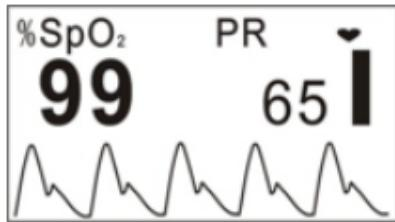
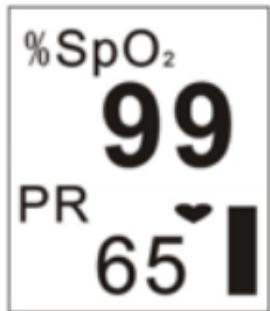
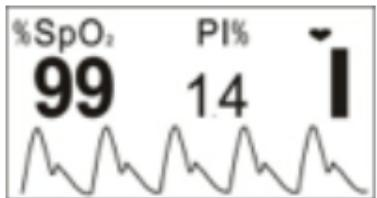
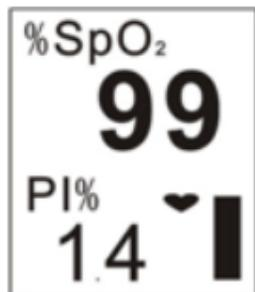

Figure 4
Figure 5
Figure 6
Figure 7
4. Next enter into data display screen (as shown in Figure 4). User can read the values and view the waveform from display screen.
5. When the display is shown as Figure 4, press Display Key to switch display screen.
- Press Display Key once, display screen (as shown in Figure 4) will be flipped 180°.
- Press Display Key twice, display screen will be changed as Figure 5.
- Press Display Key three times, display screen (as shown in Figure 5) will be flipped 180°.
- Press Display Key four times, display screen will back to the screen as shown in Figure 4.
- Press Display Key circularly, display screen will be switched between the two screens (as shown in Figure 4 and Figure 5), and four directions display alternately.
6. Longtime press Display Key (about 2 seconds), display screen will be shown as Figure 6. Differences between Figure 6 and Figure 4 are as follows
- In Figure 4, SpO2 and pulse rate are being monitored and displayed on the screen.
- In Figure 6, SpO2 and perfusion index are being monitored and displayed on the screen.
7. When the screen displays as shown in Figure 6, press Display Key circularly, the display screen will be switched between the two screens (as shown in Figure 6 and Figure 7), and four directions display alternately.
8. Display screen (as shown in Figure 6 or Figure 7) will return to the screen as shown in Figure 4 or Figure 5 if without operation in 10 seconds